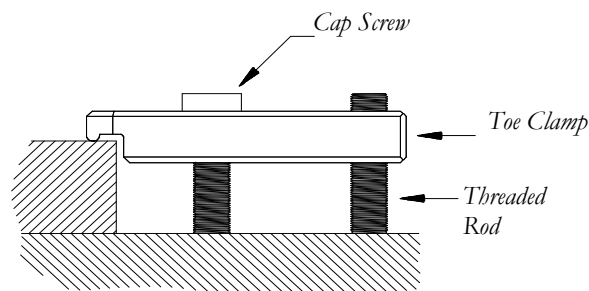

Figure 1
STEP 1. For work pieces from 0.0 inches to 2.0 inches thick, the threaded rod is attached to the toe clamp as shown in Fig. 1.